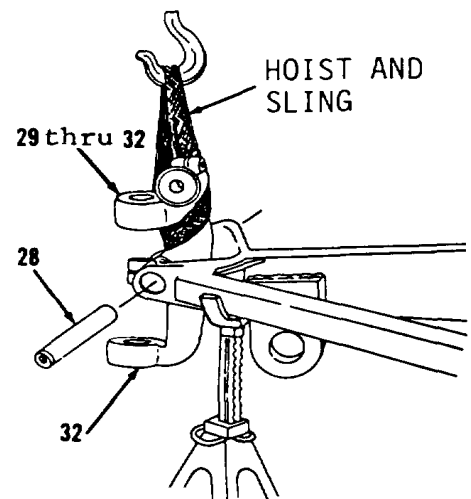

Figure 5-101.
18. Attach hoist and sling to arm (32, Figure 5-101).
19. Remove pin (28).
20. Remove items 29 thru 32 as an assembly.